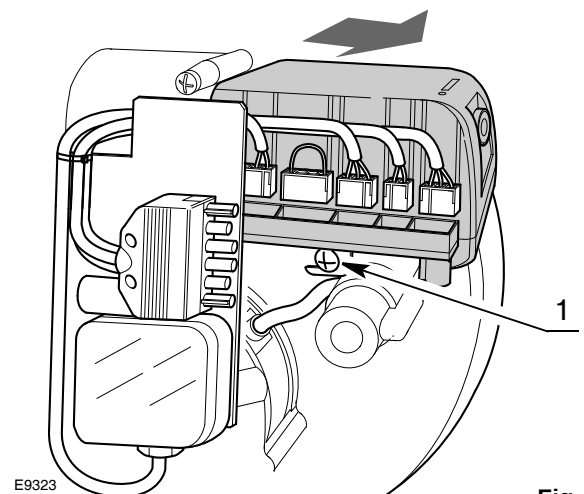

Fig. 16
- disconnect all the connectors connected to it, the 6-pin plug, the high voltage cables, and the earth wire (TB);
- loosen the screw 1)(Fig. 16) and pull the control box in the direction of the arrow.
- tighten screw 1)(Fig. 16) with a tightening torque of $1 \div 1.2 \text{ Nm}$;